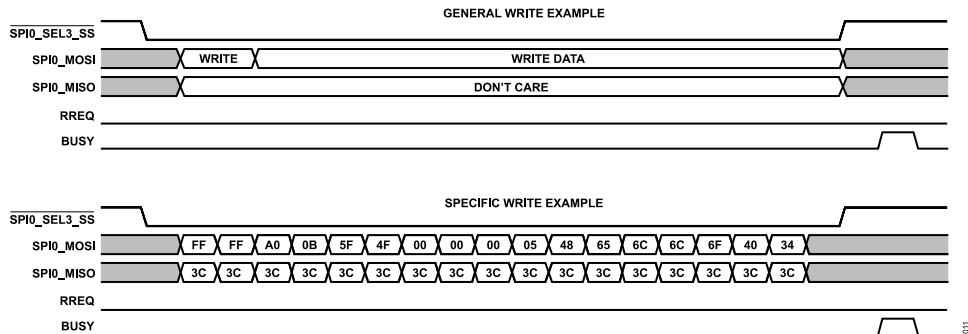
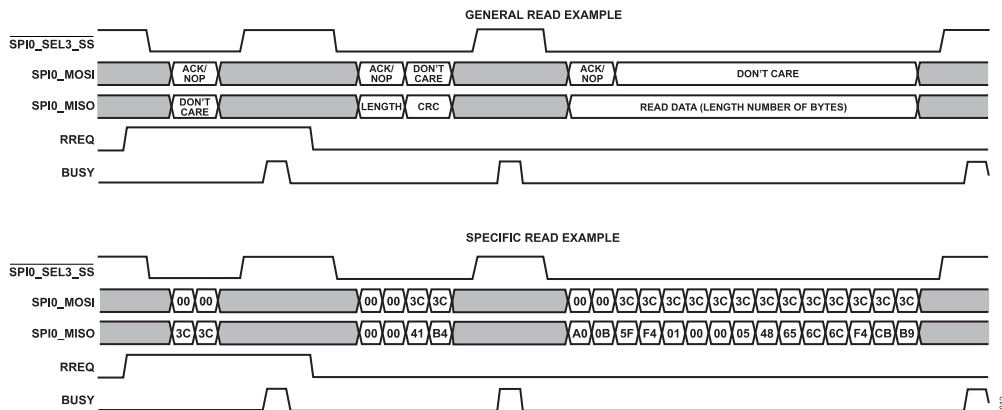

Figure 10. General and Specific SPI Write Example
Figure 11. General and Specific SPI Read Example
- ▶ Figure 11 shows the multitransaction read operation sequence in detail.
An example of a write transaction and a read transaction with actual data is shown in Figure 10 and Figure 11, respectively. The transaction is an NI\_Discover message with the UI\_EchoReq and UI\_EchoRes message, which is detailed in the code for the ni-api-srv found in the NI-Example-App workspace in the Developer Portal.